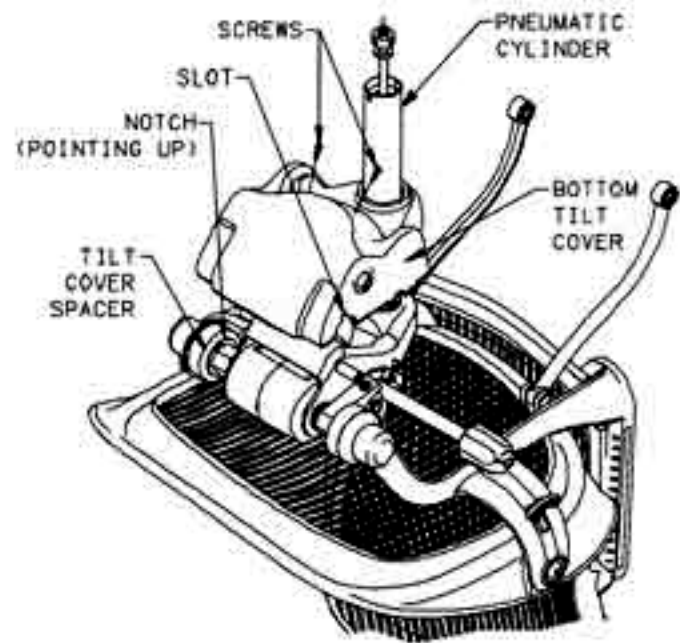

FIGURE 6
6. USING #2 PHILLIPS HEAD SCREWDRIVER REMOVE AND DISCARD (2) SCREWS SECURING LOWER TILT COVER. SLIDE TILT COVER PAST PNEUMATIC CYLINDER AND DISPOSE OF PROPERLY. SEE FIGURE 6.
7. SLIDE REPLACEMENT LOWER TILT COVER OVER PNEUMATIC CYLINDER AND ONTO TILT. MAKE SURE NOTCHES IN TILT SPACER ENGAGE SLOTS IN TILT COVER. IF NECESSARY, ROTATE TILT SPACERS TO ALIGN NOTCHES WITH SLOTS. ALIGN (2) HOLES IN TILT COVER WITH HOLES IN TILT. INSTALL (2) SCREWS AND TIGHTEN. SEE FIGURE 6.